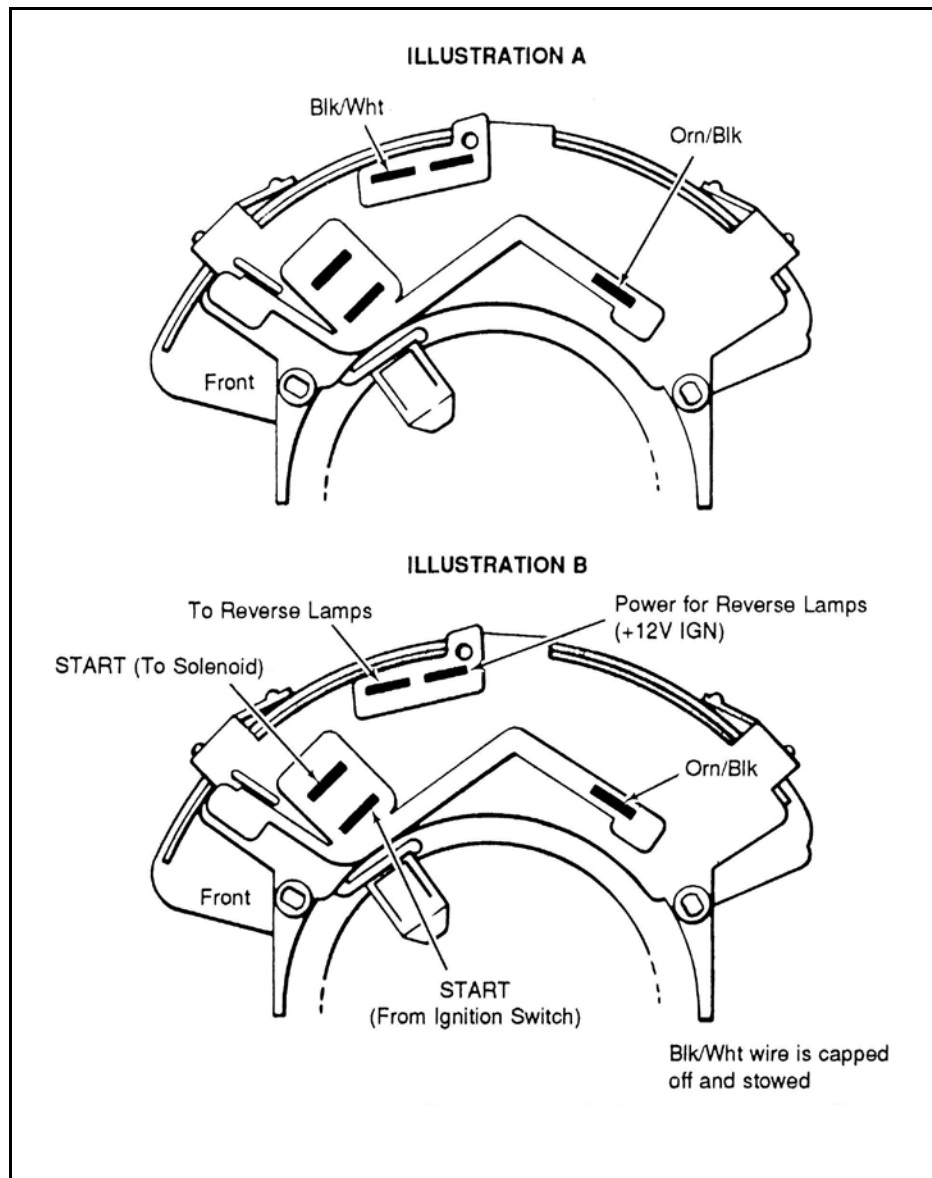

FIGURE 6.4 Gear Indicator Switch
- D.1.** The recommended switch is a combination reverse light, gear indicator **AND** neutral safety switch. You may use it for all these purposes if you wire it **EXACTLY** as shown in **Figure 6.4 Illustration B**
- D.2.** If you are going to use the recommended switch as a gear indicator for the computers benefit **ONLY**, then you will wire it as shown in **Figure 6.4 Illustration A**.